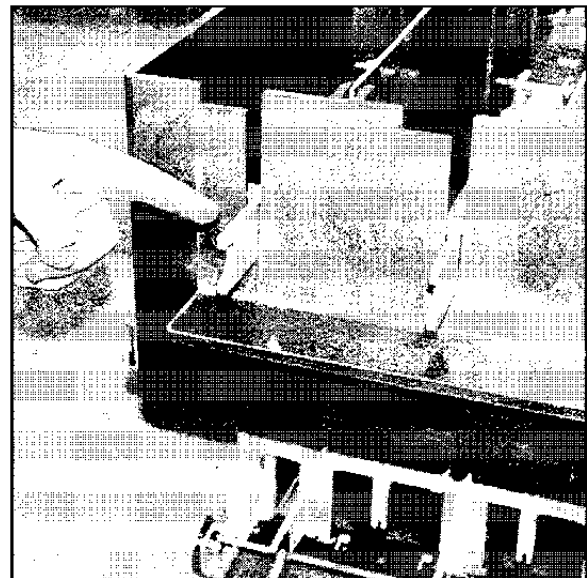

Fig. 56 Checking Stabs On Withdrawable Contactor Carriage
- Check the condition of the stab terminals on the withdrawable contactor carriage for any signs of damage or discoloration (Fig. 56). If there is any excessive build-up of dirt or other foreign material, wipe clean and relubricate with a light coat of Toshiba B8 grease, making sure that no grease